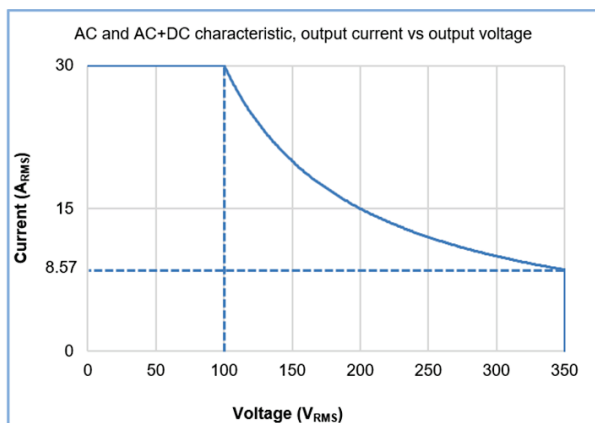
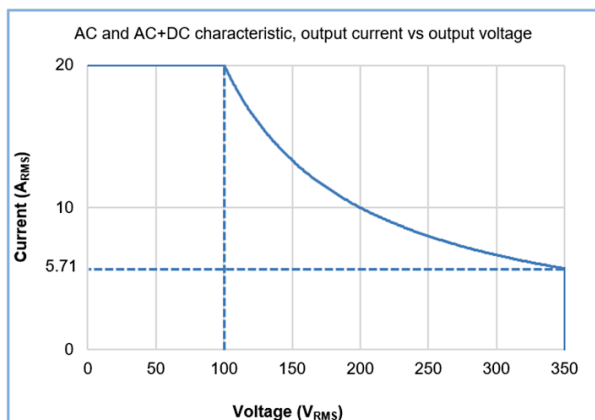

Figure 1: 3kVA AC and AC+DC characteristic
Figure 3: 2kVA AC and AC+DC characteristic
- \*3: Maximum RMS voltage setting range is associated with the output current setting. When the output current setting is above 5.714A for 2kVA or 8.571A for 3kVA, the output voltage setting is limited to rated output power. Refer to Figure 1 and Figure 3.